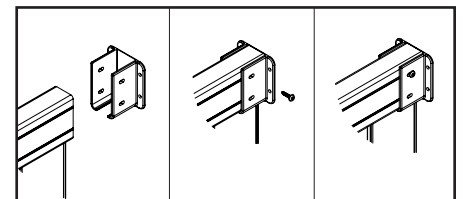

Figure 3
- Prepare the pre-assembled fence panels by sliding the mounting brackets onto the rails with the open space to the top. Slide the bracket fully onto the rail. While holding the bracket in place, install one attaching screw into one of the slotted holes. Place the screw at the end of the slot closest to the mounting face of the bracket, as shown in Figure 3. This will temporarily hold the bracket to the panel when you place the complete panel between the posts. Do this for all brackets on each fence panel prior to installation. Later, you will be able to slide the bracket outward to get a perfect fit if your post opening is slightly wider than the suggested dimension.